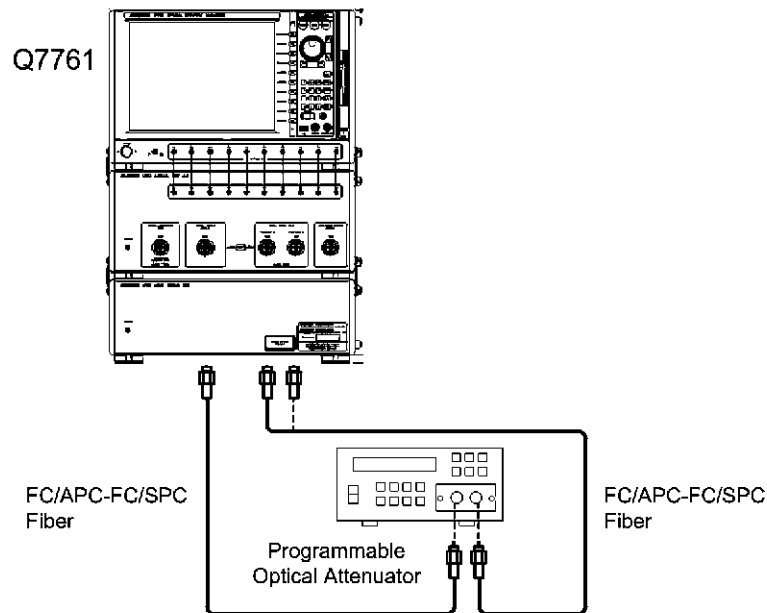

Figure 2-8 Connection-2 for Magnitude Characteristic Linearity (Dispersion Measurement Mode) Test
13. Then, as shown in Figure 2-8, connect the “OPTICAL SIGNAL OUTPUT” of this instrument with the INPUT port of the variable optical attenuator, using the FC/APC-FC/SPC optical fiber, and the OUTPUT port of the variable optical attenuator with “TEST PORT 1” of this instrument, using another FC/APC-FC/SPC optical fiber.